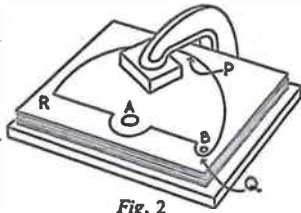

Fig. 2
Place the metal sheets on a piece of flat board and clamp all together with a cramp, or even a vice. To avoid damaging the top sheet, put a piece of wood under the foot of the cramp. (See Fig. 2.) Now bore holes (A) and (B) with a hand-drill. In this case, (A) was 4 B.A. and (B) was 8 B.A. Bolts are then passed through and nutted—thus helping to clamp the sheets more securely. The shape is then cut out with the fretsaw. First, start at corner (Q), and saw round to point (P), where the clamp prevents further progress. Return to (Q), and saw along the bottom to